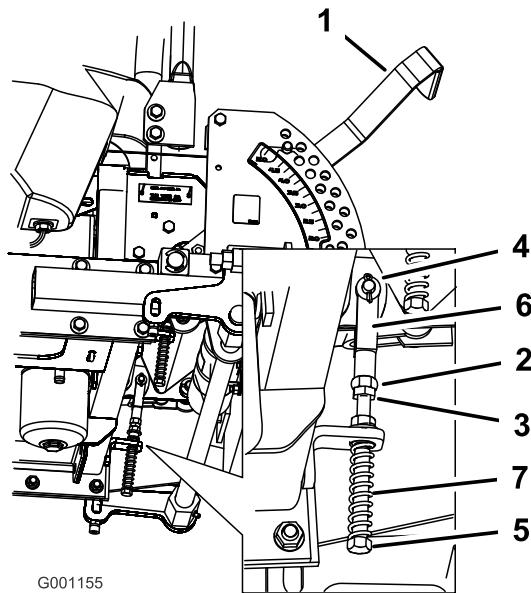

Figure 67
8. If adjustment is needed, loosen the nut and jam nut against the yoke (Figure 67).
9. Apply slight rearward pressure on the motion control lever, turn the head of the adjustment bolt in the appropriate direction until the control lever is centered in the neutral lock position (Figure 67).
10. Tighten the nut and jam nut (Figure 67).